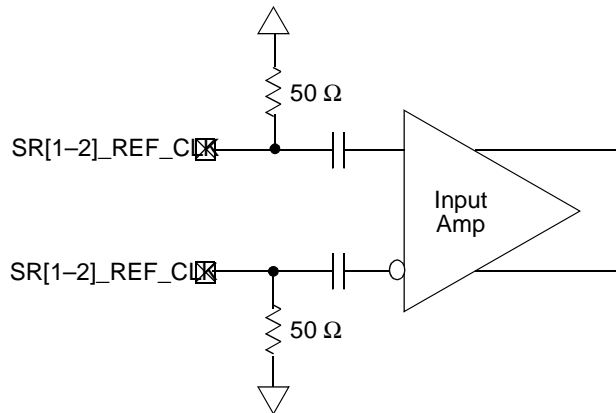

Figure 5. Receiver of SerDes Reference Clocks
The SerDes reference clock inputs are applied to an internal PLL whose output creates the clock used by the corresponding SerDes lanes. The SerDes reference clock inputs are SR1\_REF\_CLK/SR1\_REF\_CLK or SR2\_REF\_CLK/SR2\_REF\_CLK. Figure 5 shows a receiver reference diagram of the SerDes reference clocks.
- The SR[1-2]\_REF\_CLK and SR[1-2]\_REF\_CLK are internally AC-coupled differential inputs as shown in Figure 5. Each differential clock input (SR[1-2]\_REF\_CLK or SR[1-2]\_REF\_CLK) has on-chip 50-Ω termination to  $GND_{SXC}$  followed by on-chip AC-coupling.